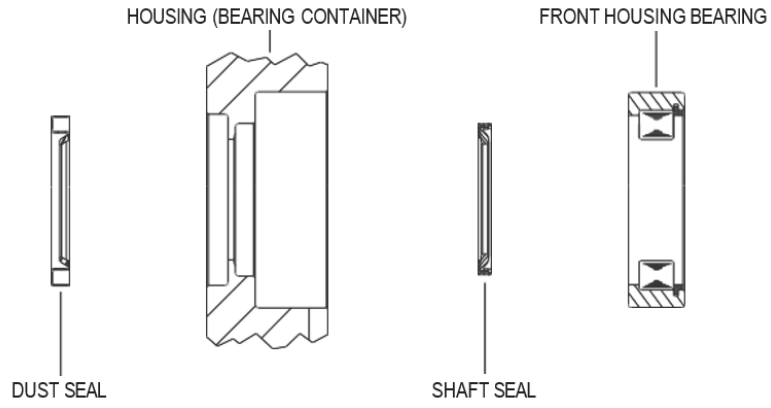
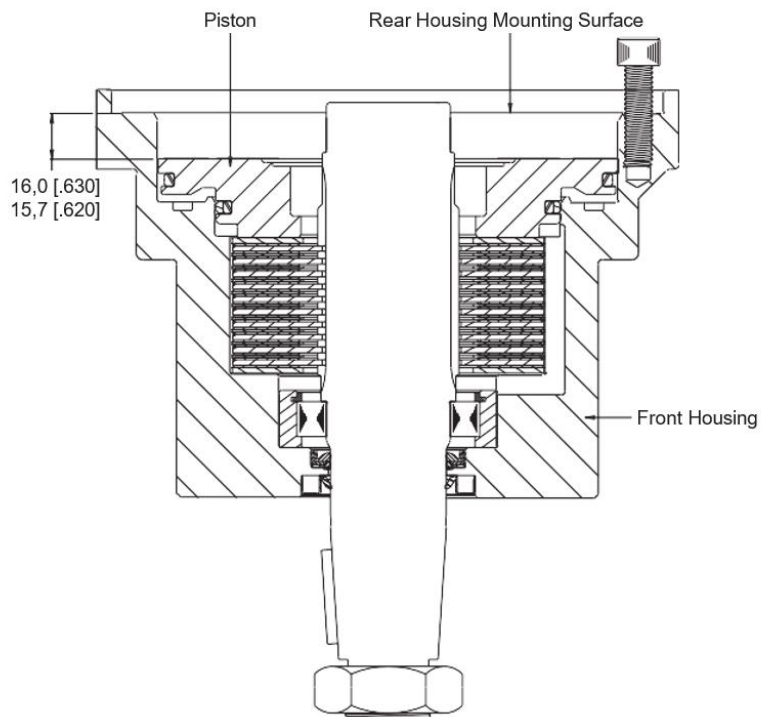
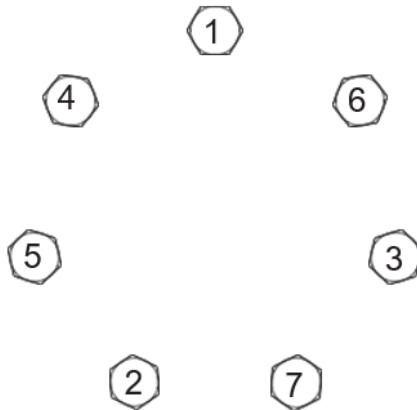

Figure 2 Seal orientation
Figure 3 Piston assembly
Figure 4 Bolts sequence
- A. Place housing (15) on a flat surface with pilot of housing facing up. Install dust seal (1) making sure that lip on seal faces up. Place front housing (15) in vise with pilot on housing facing down. Install shaft seal (4) into housing bore making sure that lip on seal faces up. For correct seal orientation, see Figure 2.
- B. Install front housing bearing (16) into housing making sure that the snap ring that retains bearing rolls faces up. Making sure not to cut seal lip with shaft keyway, install shaft (35) into housing (15).
- C. Install one disk stamping (18) into housing making sure that lugs or splines engage those in housing (15). Install one friction disk engaging splines on disk with those on shaft. Alternate disk stampings and friction disks until all disks except thick disk stamping (19) are installed. Install thick disk stamping (19) lastly on top of disk assembly.
- D. Install small O-Ring seal (5) and large O-Ring seal (7) into corresponding grooves in piston (20). Install small seal (6) and large seal (8) in corresponding grooves over O-Ring seals. Thoroughly coat seals and sealing surfaces of housing (15) with clean oil. With large O.D. side of piston (20) facing up, install piston (20) into housing (15) and evenly press piston down making sure not to pinch seals. (If the disks and disk stampings are going to be replaced, the stack up on the new disks must be between 15,7 - 16,0 [.620 - .630]. Use Figure 3 for measuring reference.)
- E. Install springs (21) on top of piston. Install O-Ring Seal (9) in groove in rear surface of housing (15). If rear shaft bearing (16) and spacer shim(s) (22) came out of rear housing (23), reinstall at this time by placing spacer shim(s) (22) into rear housing (23). Install rear shaft bearing (16) making sure that snap ring that retains bearing rolls faces out. Place rear housing (23) onto front of housing (15) lining up bolt holes. While holding motor assembly together, remove motor assembly from vise and place in arbor press. Press down on rear housing (23) until it contacts front housing (15) and lock press. Install eight capscrews (24) and torque to 61,0 Nm [45 ft. lbs.].
- F. Install drive link (26) into end of shaft with tapered end facing up. Place body seals (10) in grooves in both sides of rotor (27). Place rotor (27) onto housing (15) with side of rotor with chamfer in splines facing housing (15). Place manifold (28) over rotor (27) with seal groove side up. Install manifold seal (11).
- G. Install the commutator seal (12) into the commutator (29) with the metal side facing out. Use finger pressure to press the seal down flush with the surface of the commutator. Place the commutator container onto the manifold (28) and then place the commutator onto the protruding end of the drive link (26) making sure that the seal side faces up.
- H. Install the remaining body seal (10) in the groove in the face of the endcover (32). Install piston spring (31) into endcover (32), then the white backup seal (14) followed by the O-Ring seal (13). Lining up the alignment pin with the hole in the endcover, press piston (30) into the endcover (32). While holding the piston (30) in the endcover, lower the endcover assembly onto the motor. Check to make sure that the endcover ports are in their original position.
- I. Install the seven assembly bolts (34) and pre-torque to 13.6 Nm [10 ft. lb.]. Using the bolt torque pattern in Figure 4, final torque all bolts to 69.8 ± 7.5 Nm [51.5 ± 5.5 ft. lb.].